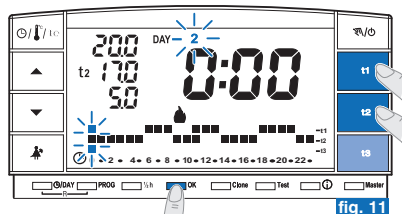

fig. 11
- If an error is made after having set the temperature for **Monday**, reset (you can use keys **▲** **▼** to move rapidly to the hour to be reset on the temperature range: the corresponding time is shown on the display) or press **OK** to confirm the program setting. When **OK** is pressed to confirm, the program set (for Monday) is saved in the memory and Tuesday (2) will blink together with the digits pertaining to the time **0:00** above the temperature range for the previous day (fig. 11).
- Press **OK** (e.g. fig. 11) to apply the same temperature range as for Monday: the same range will be set for **Tuesday** and day **3, Wednesday** and the digits corresponding to the time **0:00** will blink.